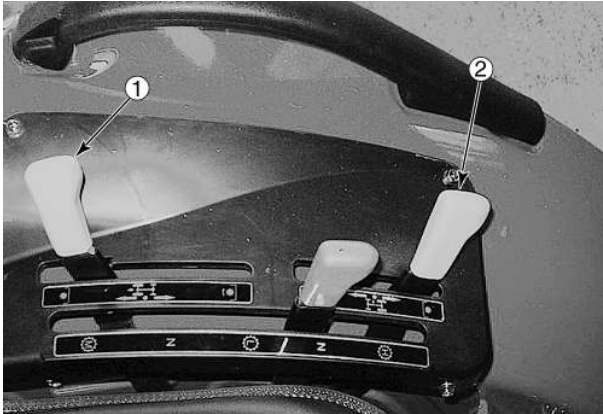

Figure 27 - PTO Control Lever
The PTO is engaged and disengaged by means of a lever in conjunction with the clutch pedal. The lever(s) is shown in Figure 27. The engaged positions (single-speed PTO), speed range (2-speed PTO) and neutral position(s) are clearly identified by the decal adjacent to the PTO lever(s).
- Disengage the PTO. with the PTO control lever, Figure 27.